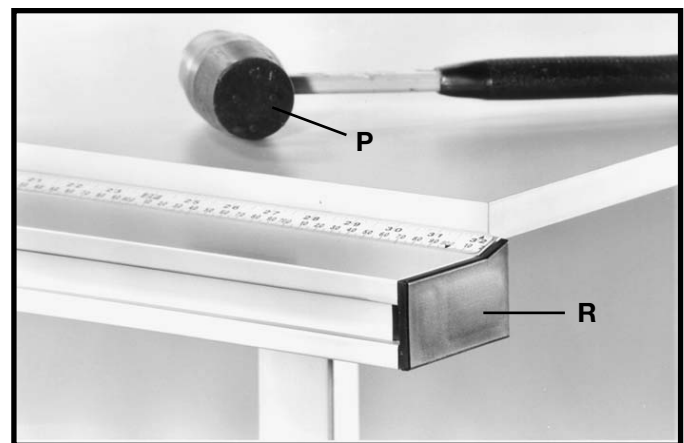

Fig. 80
7. Using a rubber mallet (P) Fig. 80, or a hammer and a block of wood, gently tap end cap (R) into both ends of the guide rail. **NOTE:** To avoid damage to the guide rail, **DO NOT** use a metal hammer directly against the guide rail.